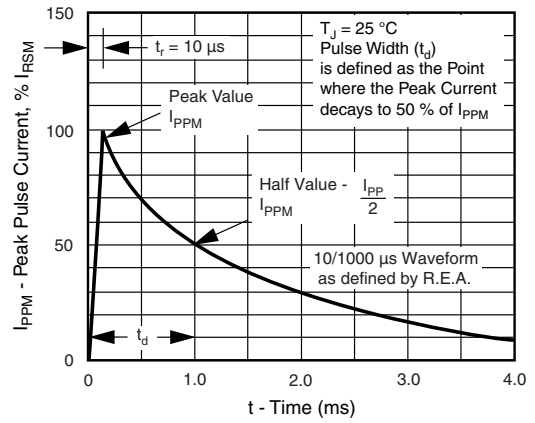
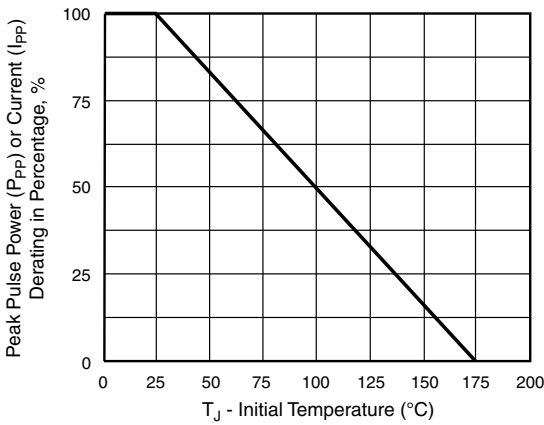

Fig. 3 - Pulse Waveform
Fig. 2 - Pulse Power or Current vs. Initial Junction Temperature
(1) Non-repetitive current pulse, per fig. 3 and derated above  $T_A = 25$  °C per fig. 2
- (1) Pulse test: tp ≤ 50 ms
- (2) Surge current waveform per fig. 3 and derate per fig. 2
- (3) All terms and symbols are consistent with ANSI/IEEE CA62.35